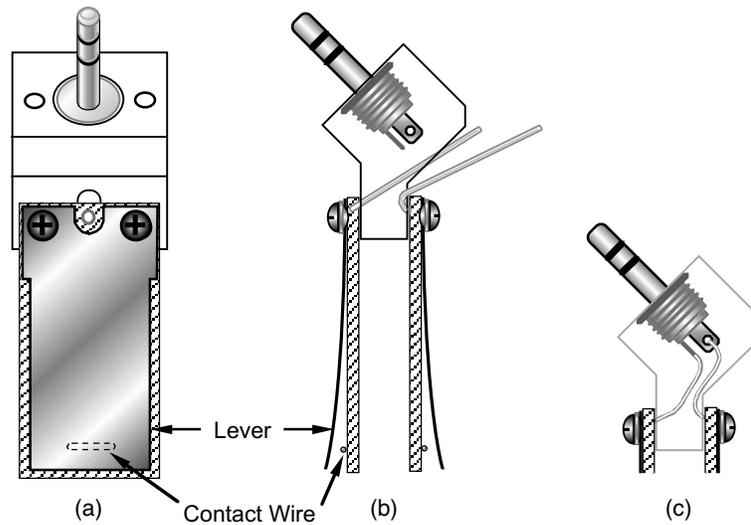

Figure 5
- Attach the levers and PC boards to the bracket as shown in Figure 5. For now, position the wires as shown in Figure 5b, within the channel provided in the bracket. Use four 4-40 x 3/16" (4.8 mm) pan-head screws and four split lockwashers. **Do not overtighten the hardware.**